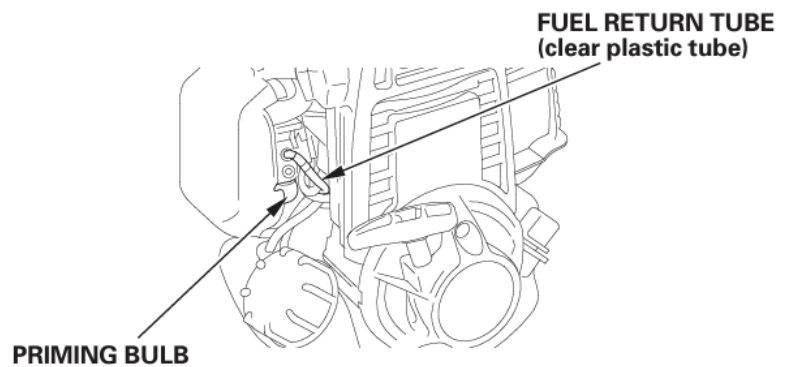

Figure 2
5.3 Press the priming bulb (Figure 2) repeatedly until fuel can be seen inside the clear fuel lines.